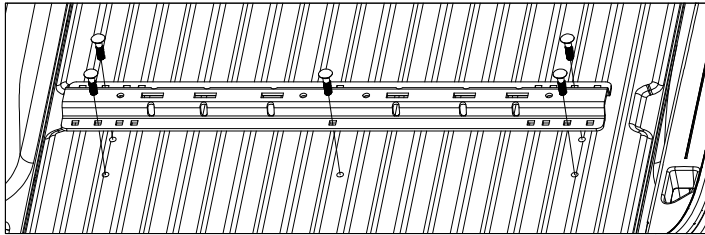
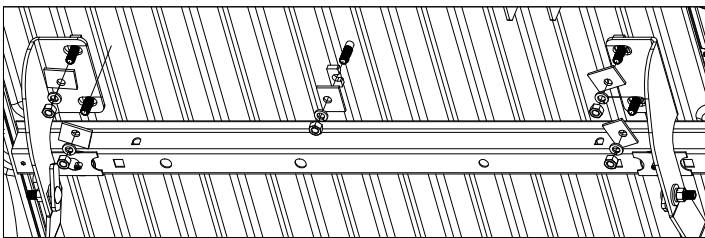

Figure E1: View looking into truck bed from rear of truck.
Figure E2: View under bed looking up toward cab. (Frame not shown)
- 1. Install the rear mounting rail.** Re-position the rear mounting rail over the drilled 9/16" holes in the bed. Install a 1/2" carriage bolt through the mounting rail into each of the five drilled holes, as shown in Figure E1. Under the bed install an offset square washer, 1/2" lock washers and 1/2" finish nuts on each of the carriage bolts, see Figure E2. Place the U-shaped spacers. Hand tighten each nut.